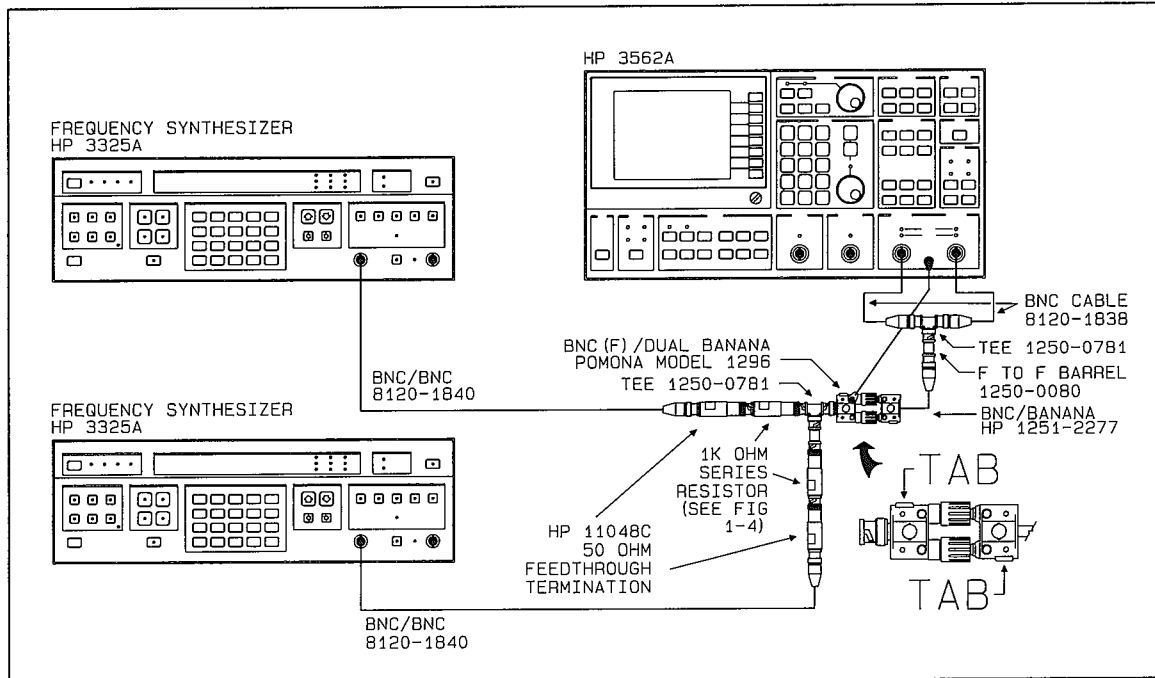

Figure 2-24 Intermodulation Distortion Test Setup #2
1. Connect the test instruments as shown in figure 2-24 so the center conductor of each channel's BNC is grounded.
- K. Connect the test instruments as shown in figure 2-24 so the center conductor of each channel's BNC is grounded.